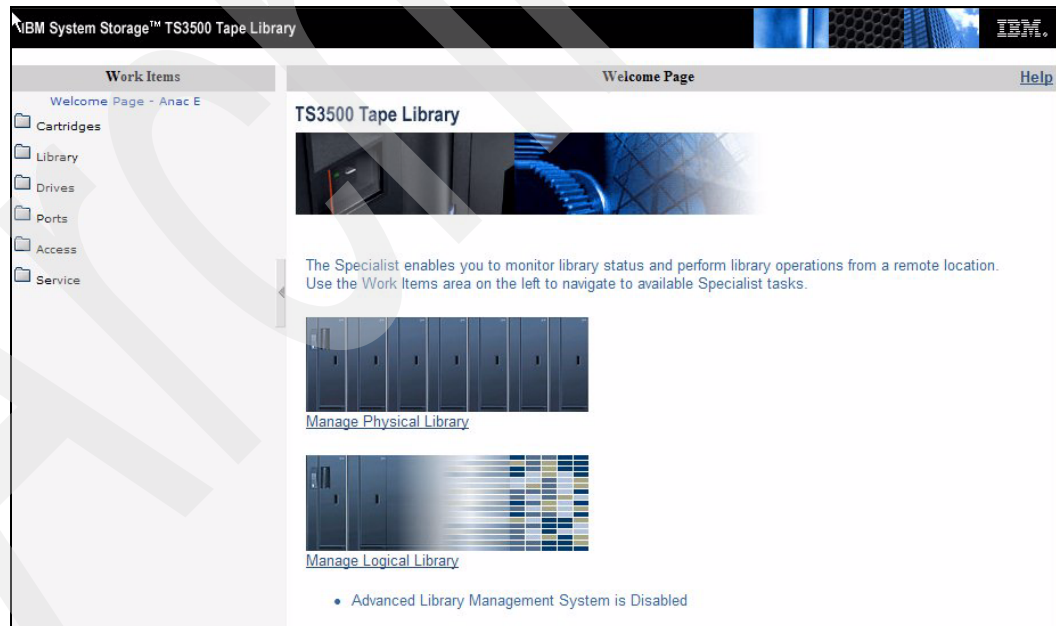
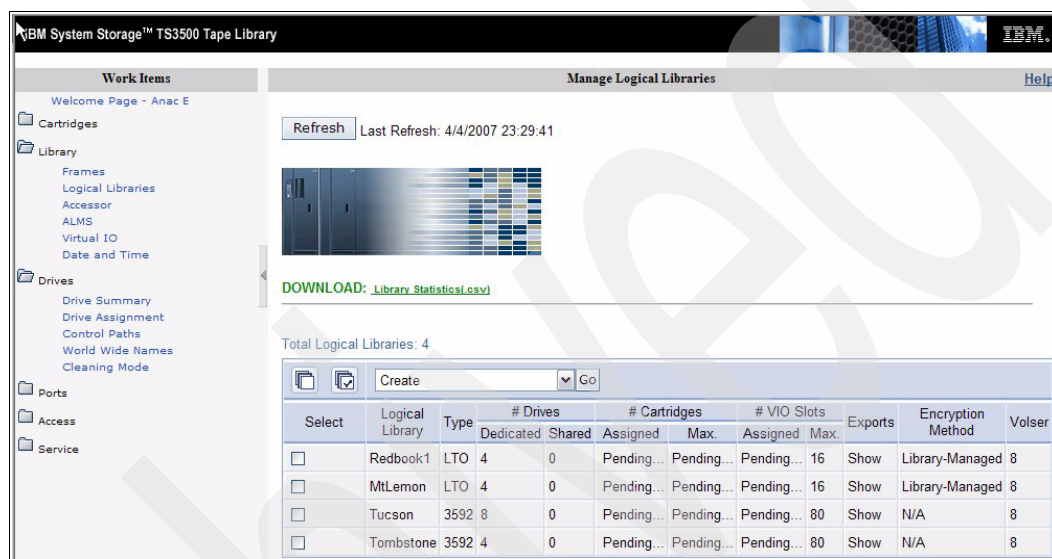

Figure 2-49 Welcome screen before enabling ALMS
Figure 2-51 Create Logical Library
1. Enter the library's IP address as a Web site in your browser. If login security has been enabled there will be a login prompt, and then you will see the welcome screen with the message that ALMS is disabled at the bottom; see Figure 2-49.
When switching from an environment with ALMS disabled, to one with ALMS enabled, the library will use the previous definitions as a basic starting configuration. The library will perform an inventory operation similar to when the frame door has been opened. The library status during this inventory process will show a cartridge assignment status of pending (Figure 2-51).
1. From the Tape Library Specialist (Figure 2-49 on page 79), select **Library** → **Logical Library** and on the next screen, Figure 2-51, click **Create**.